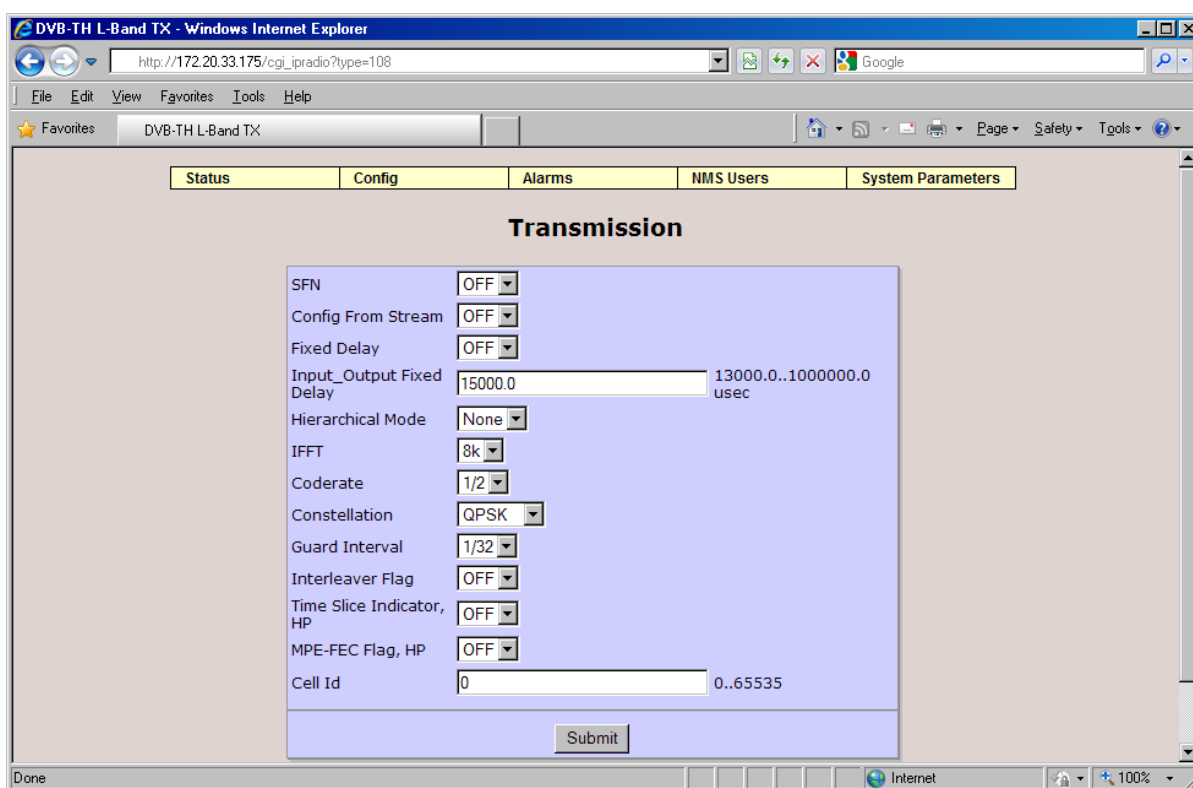

Figure 5-5 Transmission (Modulation) Parameters
2. Navigate to Config -> Transmission to configure the network mode (MFN or SFN) and/or configure the DVB-H modulation parameters – see Figure 5-5.